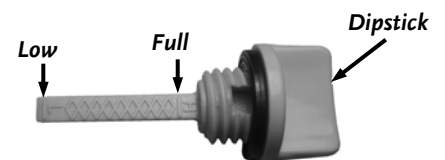

Figure 29
3. Replace the Dipstick and screw it all the way in to ensure an accurate reading and then remove it to check the oil level. The Oil is at the proper level when it reaches the Full mark on the Dipstick (**Figure 29**). Clean the Dipstick with the clean rag after checking.